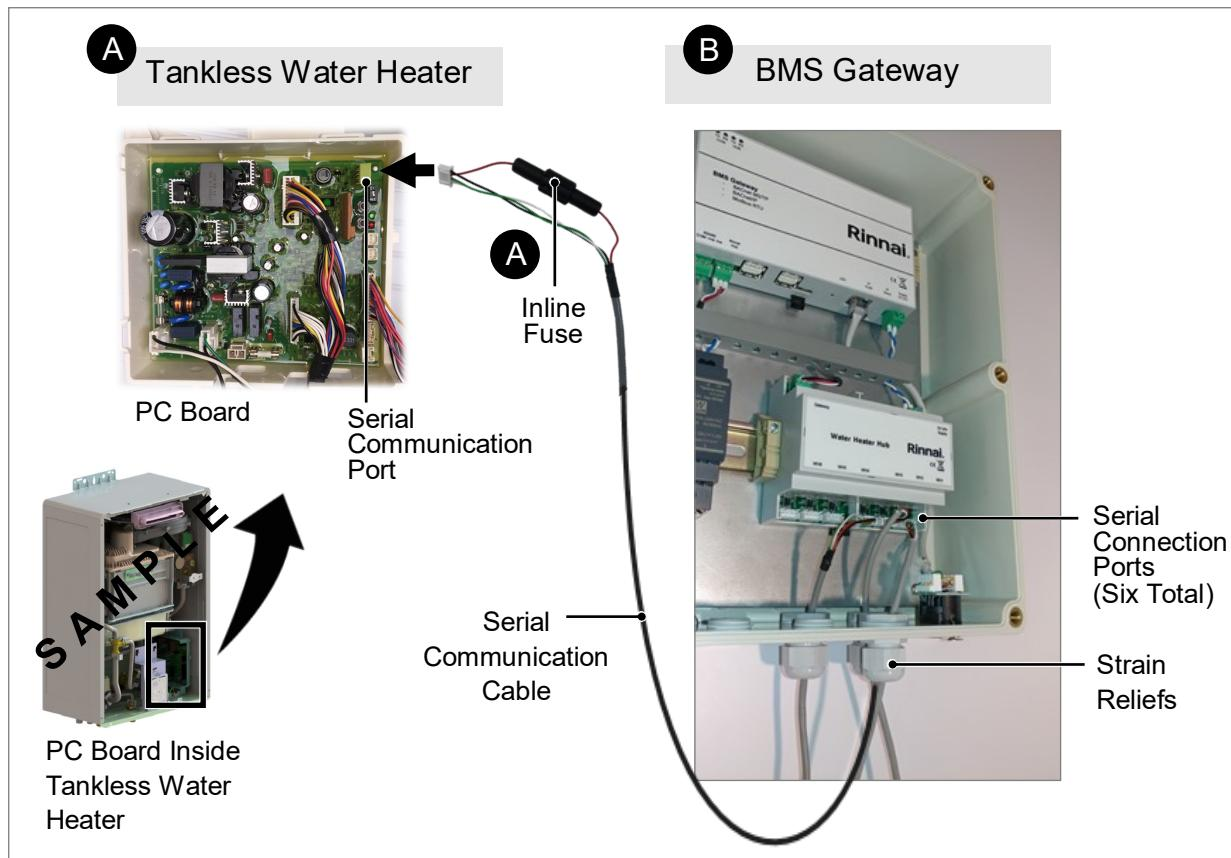

Fig 30. Sample Illustration of the Serial Communication Cable Connecting from the Tankless Water Heater to BMS Gateway.
- A. Connect the inline fuse side of the serial communication cable to the tankless water heater PC Board (see "A" in Fig 30).
- B. Route the other end of the serial communication cable through the BMS Gateway cable openings using the supplied strain reliefs and connect to the serial connection ports from right to left (see "B" in Fig 30).